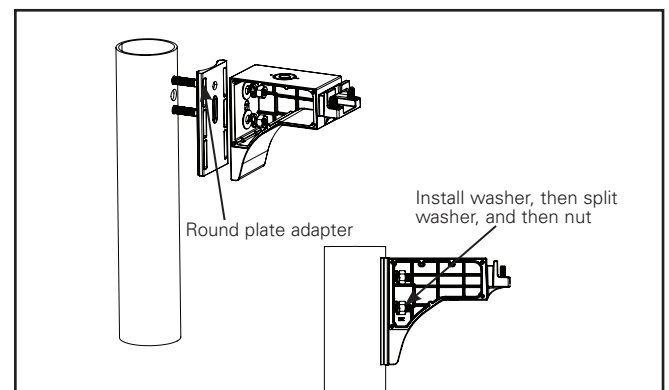

Figure 8.
- Align pole mount arm top hole with top hole in pole. Align pole mount slot with bottom hole in pole (Figure 8.)
5. From inside the pole, insert bolts through pole, adapter (if applicable), pole mount arm, washers, and splitwashers. (Figure 8.)